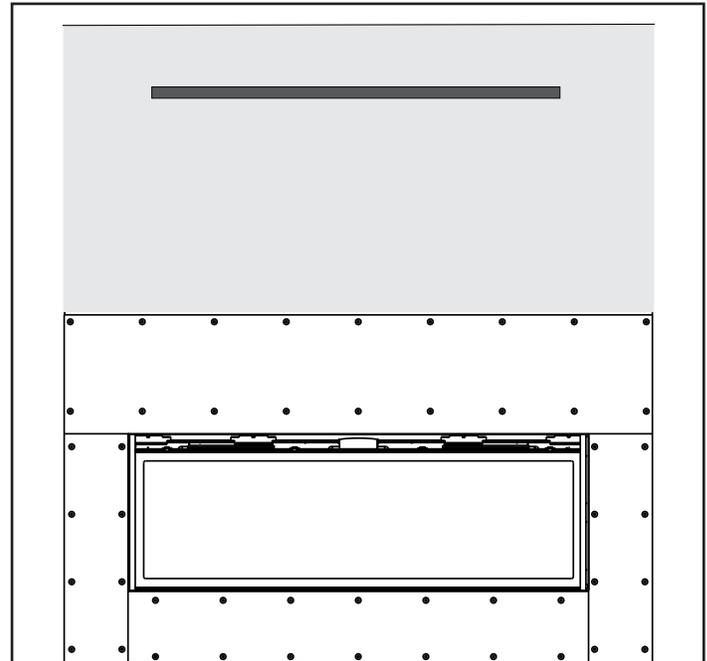

Figure 12 - HeatFlo Kit Installed (Flush Wall Shown)
1. Using 1" self drill bugle drywall screws (supplied), install non-combustible fireboard at bottom, sides and top of fireplace face (**See Figure 12**).